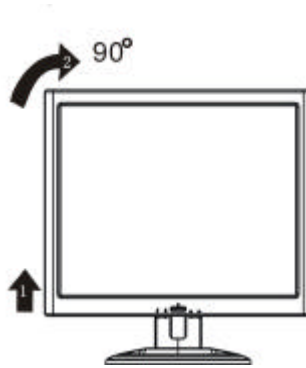

Figure 3
- You can conveniently adjust the height of your monitor by slightly lifting the display. In addition, you can also turn the display by  $90^{\circ}$  into the vertical position. To do this you must slightly lift the display and turn it clockwise. (See Figure 3)